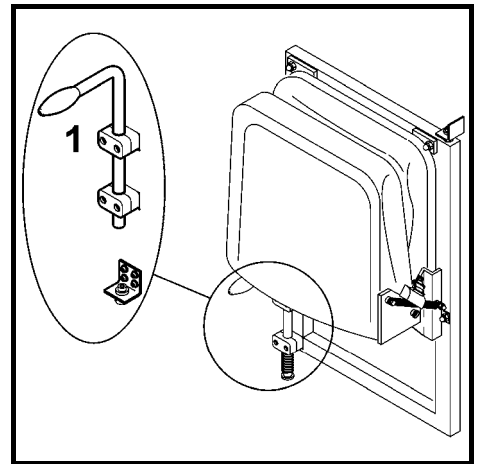

Fig. 7
The lever (Fig. 7, pos. 1) serves to lock the auxiliary seat into position either beside the operator's seat or against the cab's wall. To rotate the seat, pull the lever (Fig. 7, pos. 1).